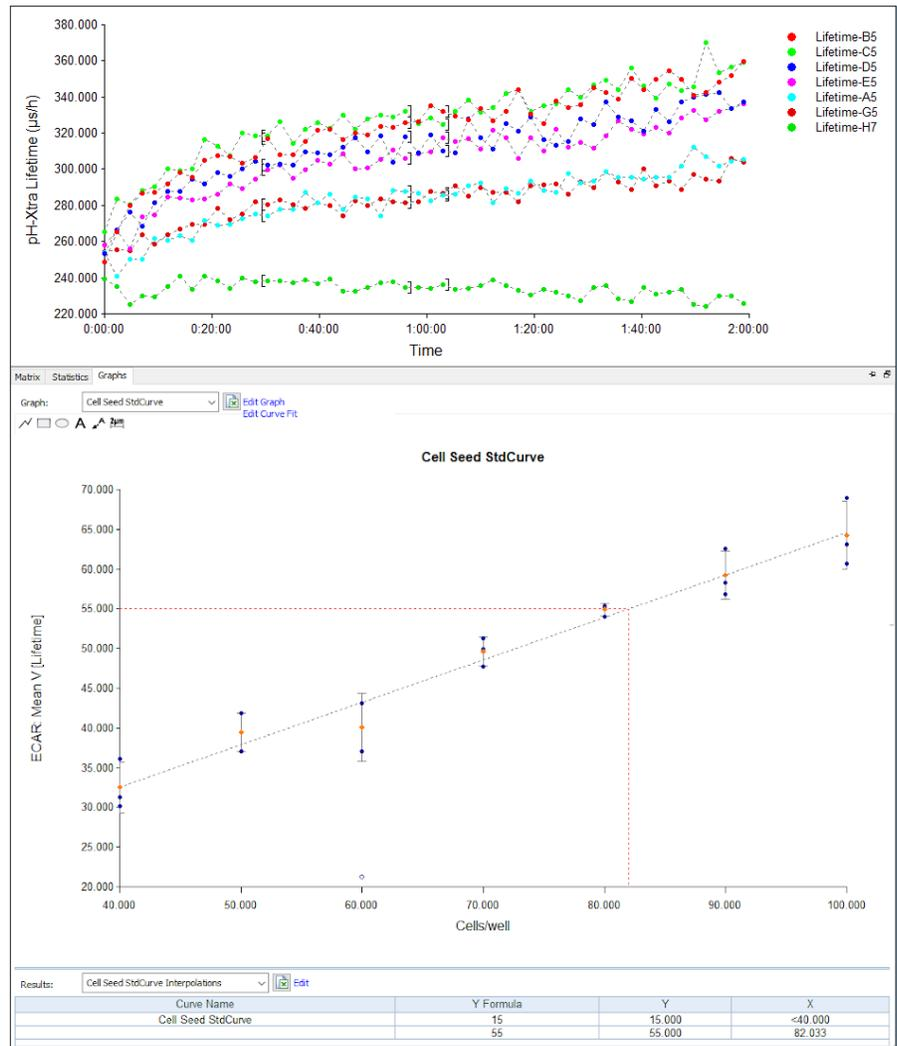

Figure 8. Signal curves for cell optimization assay and calculated rates.
To visualize the titration, select the **Graphs** plate view window and display **Cell Optimization_StdCurve** plot (Figure 8).
- iv. Add new groups, select **Assay Control**, then name each sample and place them appropriately (see Figure 8). Alternatively, enter each group as a sample, for example, SPL1-4, then label samples using **Plate > Sample ID**.